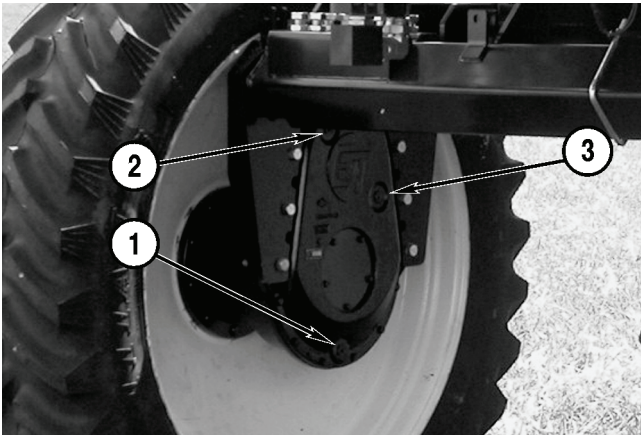

Figure 5-59
The drop box drain, level and fill plugs are located on the drop box at each rear wheel. The left drop box is shown in **Figure 5-59**.
1. Remove the drain plug (**Figure 5-59, 1**) and drain the fluid into a suitable container.
4. Remove the drop box fill plug (**Figure 5-59, 2**) and level plug (**Figure 5-59, 3**).
5. Add fluid until it is level with the bottom of the level hole (**Figure 5-59, 3**).
6. Install and tighten the fill plug (**Figure 5-59, 2**) and the level plug (**Figure 5-59, 3**).